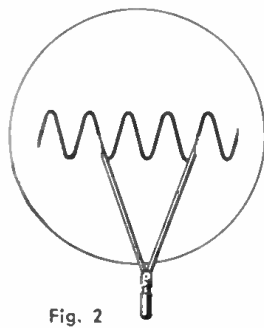

Fig. 2
4. Switch the scope vertical input back to the a.f. oscillator. The stationary pattern of step 2 should be obtained immediately. Apply the dividers to the screen, and count the number of sine waves between the points, as in Fig. 2. The number of sine waves divided by the oscillator frequency gives the shutter speed in some fractional part of a second.